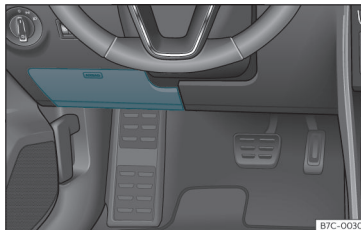

Fig. 43 Left hand drive vehicles: fuse box cover under the driver's side dashboard
- *Open*: fold the cover down »» Fig. 43.